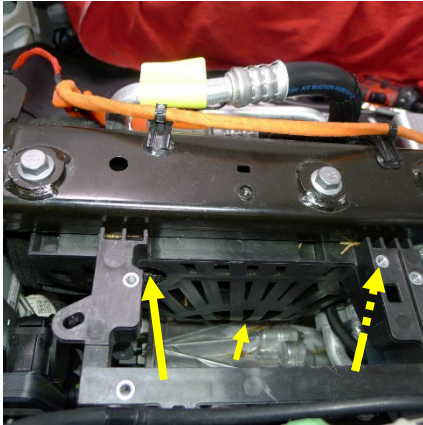

Figure 7
9. With the help of an assistant to support the weight of the A/C compressor, remove the bolts (x3) that attach the A/C compressor to the A/C compressor bracket (Figures 7 and 8).